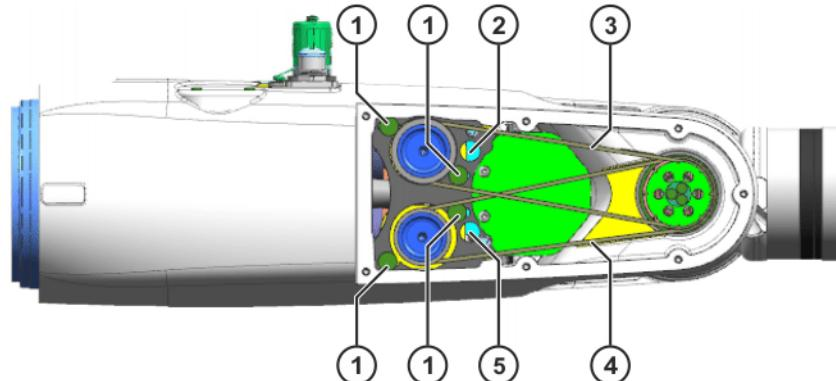

Fig. 10-2: Tensioning the toothed belt – example
2. Slacken 2 M4x10-10.9 fillister head screws on motor A5 (**>>>** Fig. 10-2).